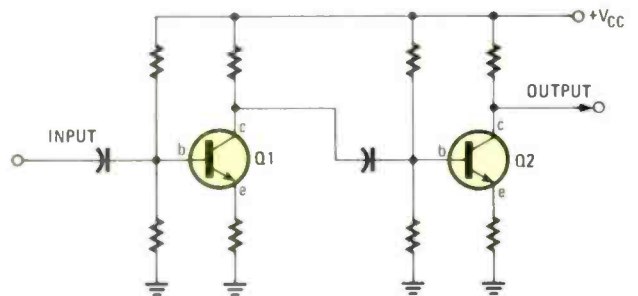
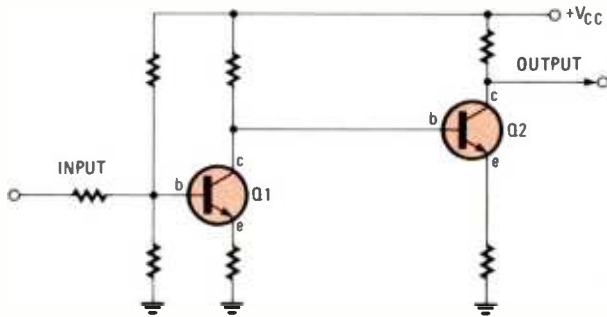

Fig. 12—Capacitor coupling can be used to cascade two bipolar transistor-amplifier stages.
Fig. 13—Cascaded stages can also be direct-coupled.
32. (800, 2.4) Figure 12 shows how two bipolar stages can be cascaded. A capacitor (C2) feeds the output voltage of Q1 to the
Individual amplifier stages may also be connected directly together without a coupling capacitor if care is taken to set the biases correctly. An example of that is shown in Fig. 13, where
the collector of Q1 connects directly to the base of Q2. The arrangement is called *direct coupling* and has two important advantages. First, fewer bias resistors are needed; second, the circuit will amplify DC as well as AC. Because capacitors are used to couple the signal from one stage to the next in Fig. 12, only AC signals can be used: the capacitors block DC. In Fig. 13, a small DC variation at the input causes a larger DC variation at the output: the circuit has DC and AC gain.